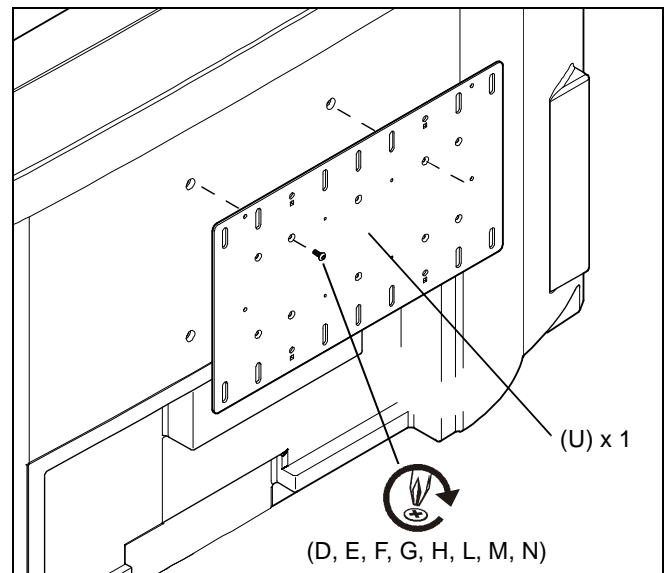

Figure 9
2. Place .125" nylon spacers (K) over each mounting hole (.250" nylon spacers (O) can be used if extra space is needed).
3. Attach Interface Bracket (U) to display using appropriate screws (D, E, F, G, H, L, M, N). (See Figure 9)